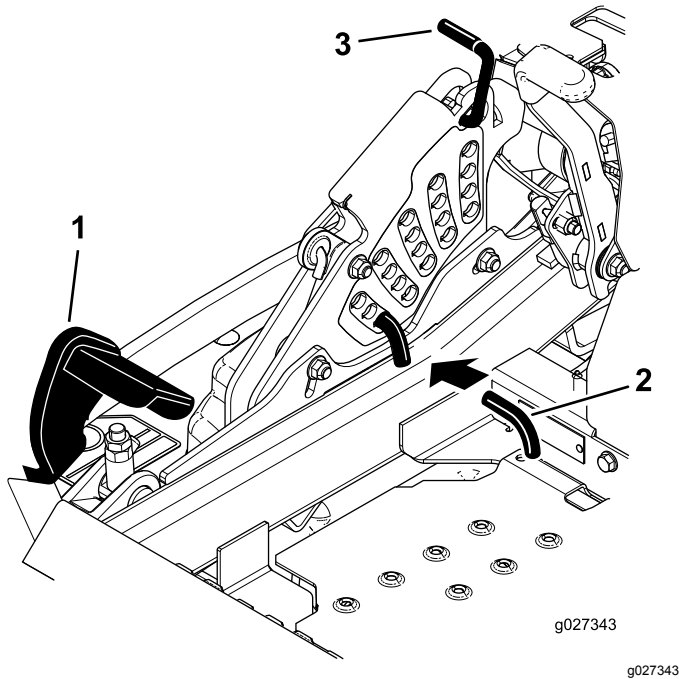

Figure 27
(also the 140 mm (5-1/2 inch) cutting height position) as shown in Figure 27.
3. To adjust, rotate the pin 90 degrees and remove the pin from the height-of-cut bracket (Figure 27).
4. Select a hole in the height-of-cut bracket corresponding to the height-of-cut desired, and insert the pin (Figure 27).